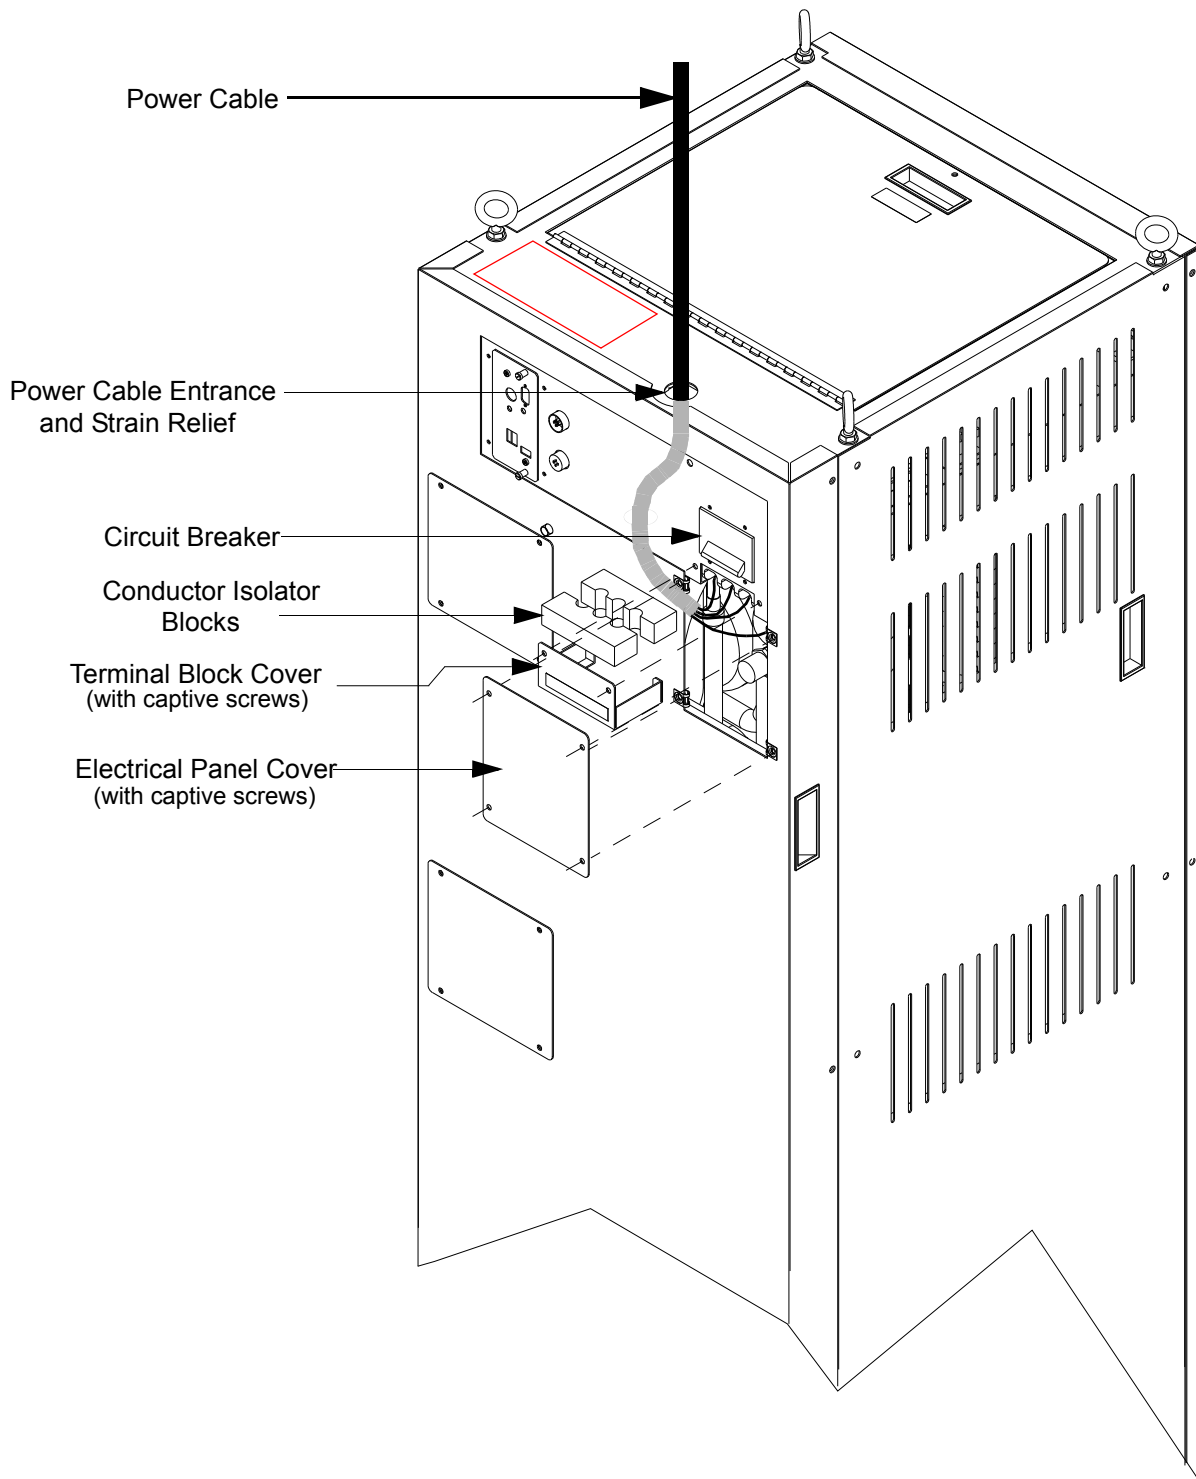

Figure 4-2: High Capacity Helium Compressor Power Cable Connections
1. Remove the electrical panel cover by turning the four captive 1/4 turn screws as shown in Figure 4-2.
2. Remove the terminal block cover by turning the two 1/4 turn screws. The conductor isolator blocks will be inside the terminal block cover as shown in Figure 4-2.
14. While holding conductor isolator block, slide the terminal block cover (containing the other conductor isolator block) up so that the conductor isolator blocks fit around the conductors and into the tray within the terminal block cover as shown in Figure 4-2.
1. Wire the CCJ1/CCP2 connectors as shown in Figure 4-2.